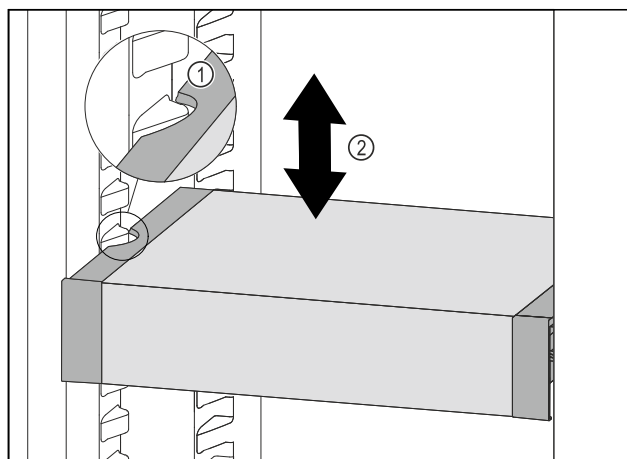

Fig. 132
- Pull VarioSafe forwards until the recesses in the side of the VarioSafe are at the level of the support rib in the refrigerator compartment. Fig. 132 (1)
- Move VarioSafe up or down in the refrigerator compartment until the desired height is reached. Fig. 132 (2)